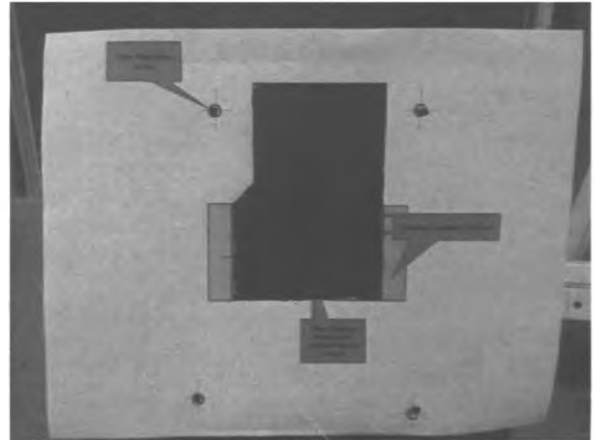

Figure 3
7. Cut the outline of the template as shown in Figure 3.